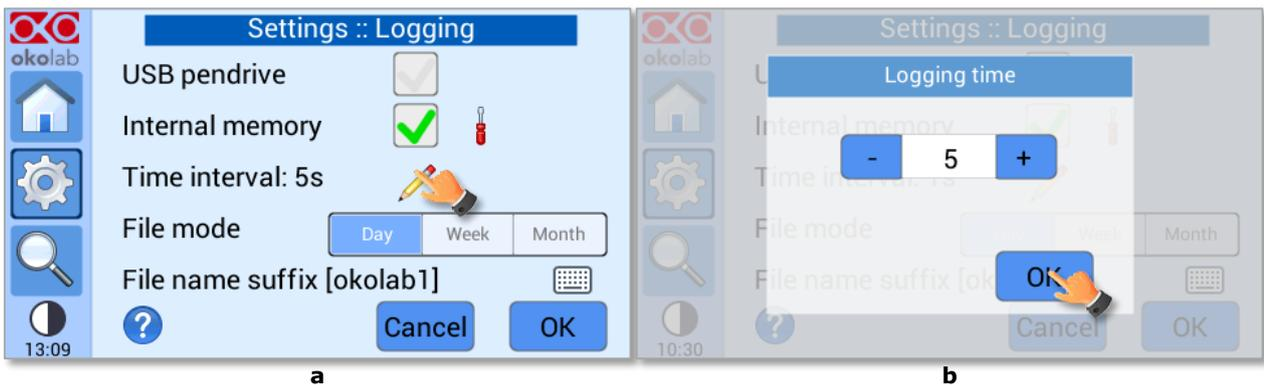

Figure 52. How to set the logging time
- Press on the icon  to insert the logging time, see Figure 52. You can change this time in the range 1-60 seconds.
- Choose how you want to split the data when downloaded, by pressing on *Day*, *Week* or *Month*, see Figure 52 (a).
Tip ► With the selections done in Figure 52 and in Figure 53, the data will be downloaded in the USB drive as shown in Figure 54.